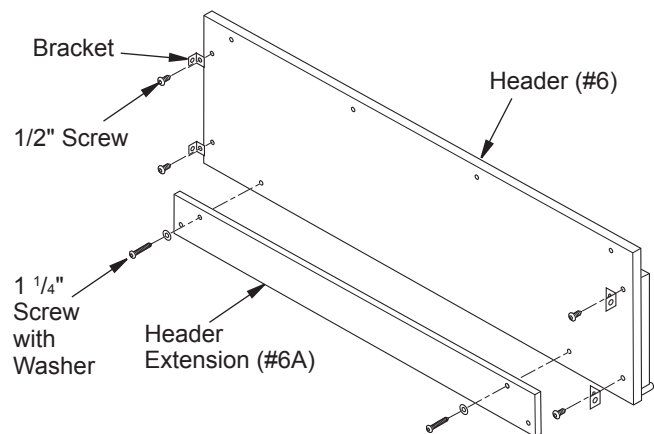

Figure 3 - Attaching Header Extension
2. Place header extension (#6A) onto bottom edge of header aligning holes in extension with threaded holes in header (see Figure 3). Using two 1 1/4" screws with washers and Allen wrench provided, attach extension to header but do not completely tighten screws.
- Using two 1 1/4" screws with washers, attach header extension to leg assemblies as shown in Figure 3, page 2, but do not tighten.